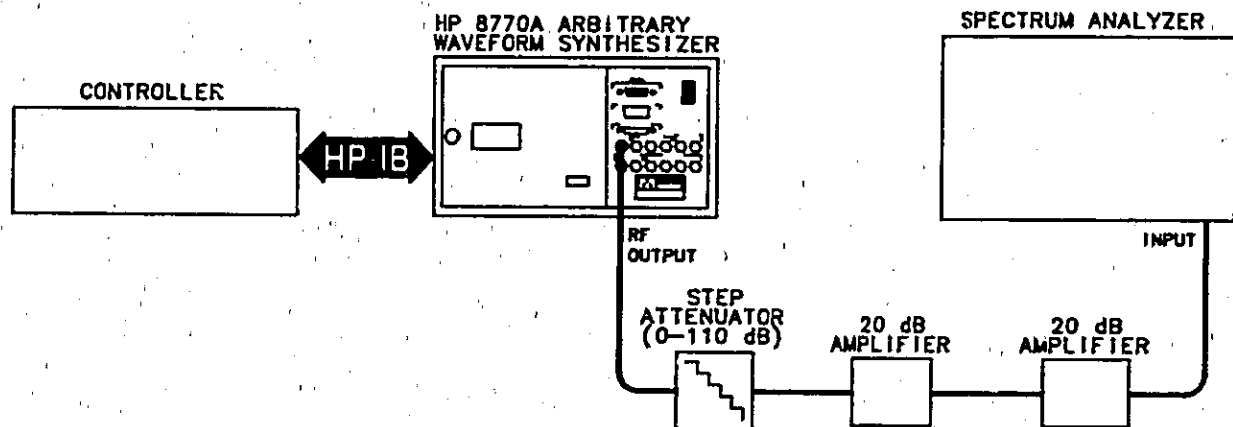

Figure 4-2. Low Level Attenuation Accuracy Test Setup
9. Disconnect the power sensor from the Synthesizer's RF OUTPUT. Connect the equipment as shown in Figure 4-2.